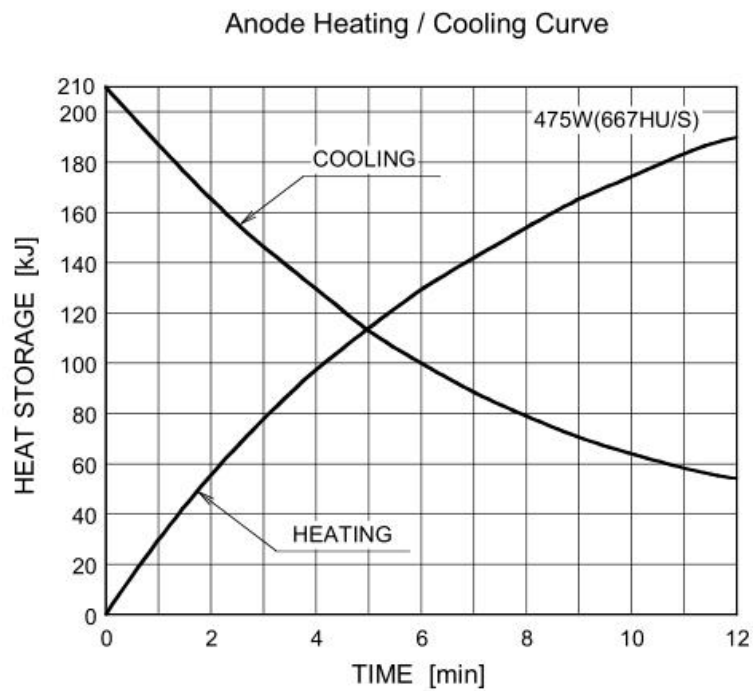

Figure 2-3 Anode thermal characteristics of X-ray tube
- 17. Refer to Figure 2-3 for anode thermal characteristics of X-ray tube.